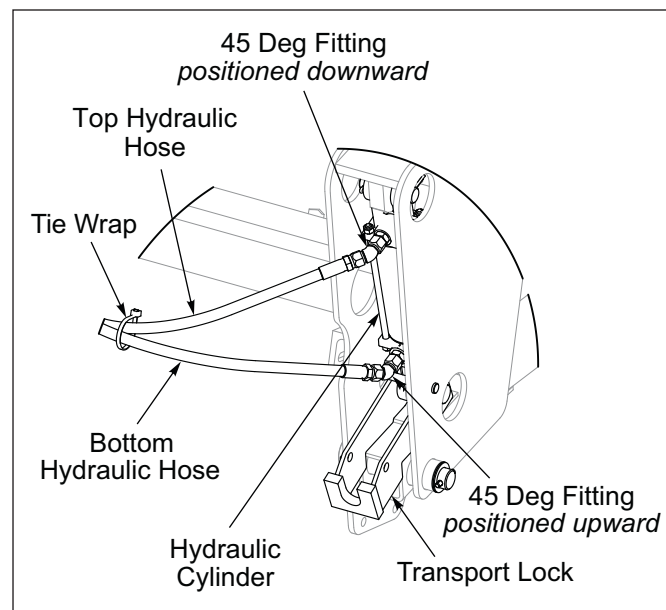

Figure 2-15: Cylinder Fittings Positioning
1. Restrictors installed in Cylinder Ports, connect 45 Degree Fitting so they are free to swivel. Connect top Hydraulic Hose to the Cylinder Base and bottom Hydraulic Hose to the Cylinder Rod End. Position the Hydraulic Hoses so that the Cylinder Base End points downward and the Cylinder Rod End points upward. Merge Hydraulic Hoses together and Tie Wrap them together about 12 inches from the Hose End. **See Figure 2-15.** Be sure that the Hoses cannot sag and make contact with the Front Roller Wheels.